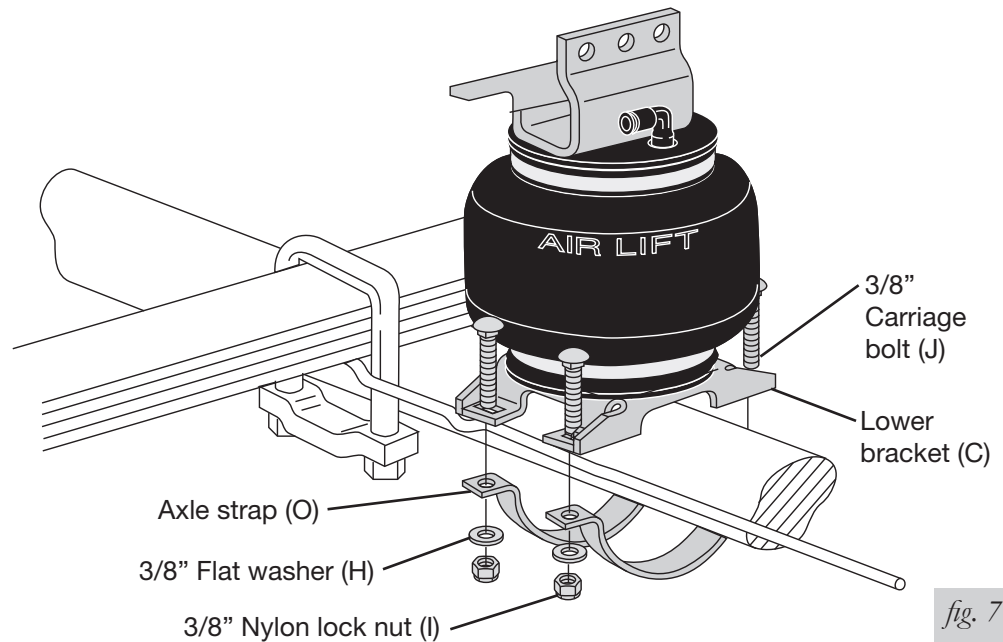

fig. 7
1. Insert four 3/8" carriage bolts (J) into the holes in the lower bracket (C) (fig. 7).
2. Secure the lower bracket (C) to the axle using the axle straps (O), flat washers (H), and lock nuts (I). Refer to fig. 7.